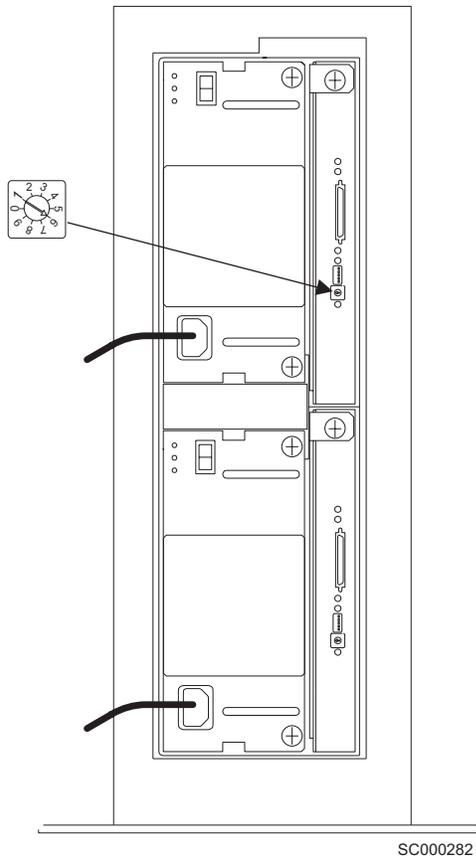

Figure 21. Setting the box ID
2. Use a small screwdriver to rotate the Box ID rotary switch (see Figure 21 on page 10) to the ID you have chosen for this 2104 Model TS4 disk enclosure.